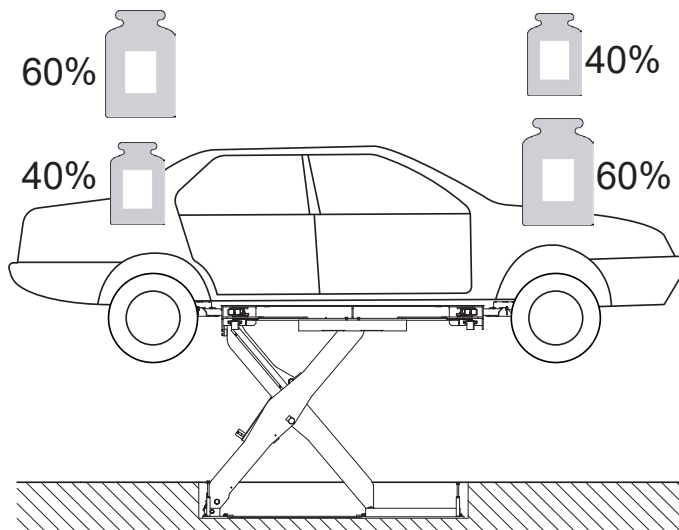

Fig. 1
- 60%:40% / 40%:60% (reversible) (Fig. 1).